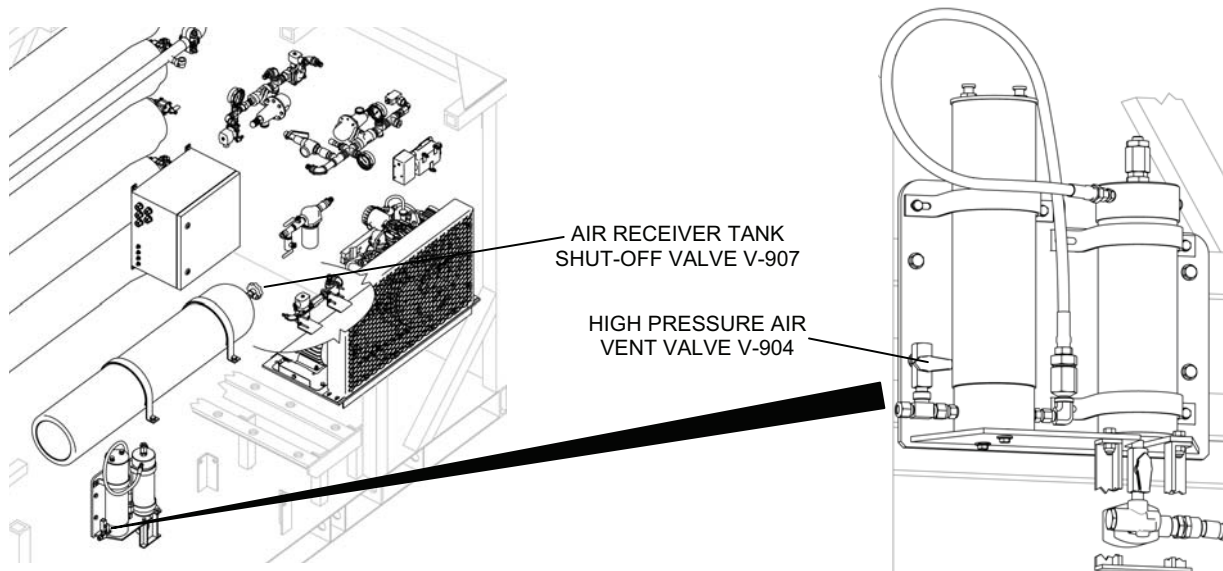

Figure 1. Valves for Bleeding the High Pressure Air System.
2. Bleed the high pressure air system as follows (see Figure 1 for valve location):